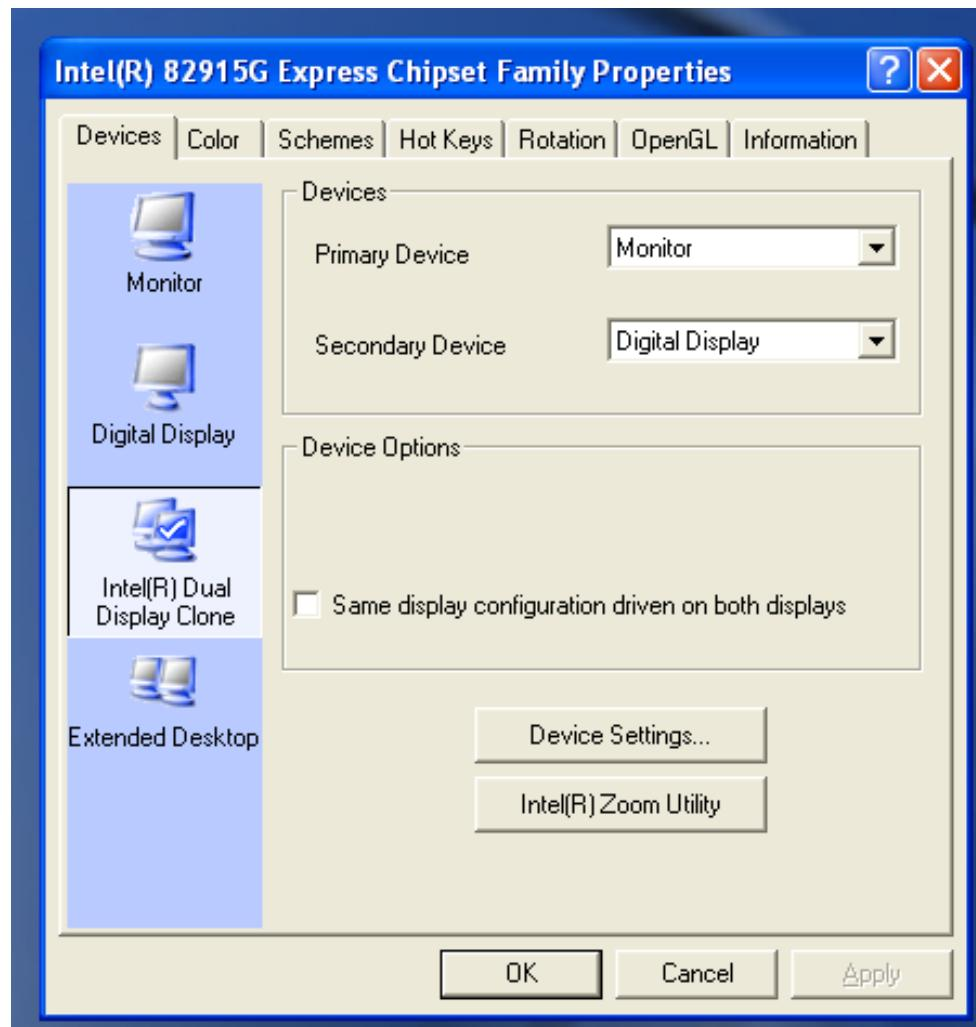

Figure 6. Enabling Digital Display via Keyboard
| Figure 6. Enabling Digital Display via Keyboard | 8 |
c. To see the dialog box shown in Figure 6, simultaneously press “SHIFT+CTRL+F12” and release. On the left column, icons list the available options for display. Select either Digital Display for single display only or Intel® Dual Display Clone for simultaneous Analog and Digital Display.